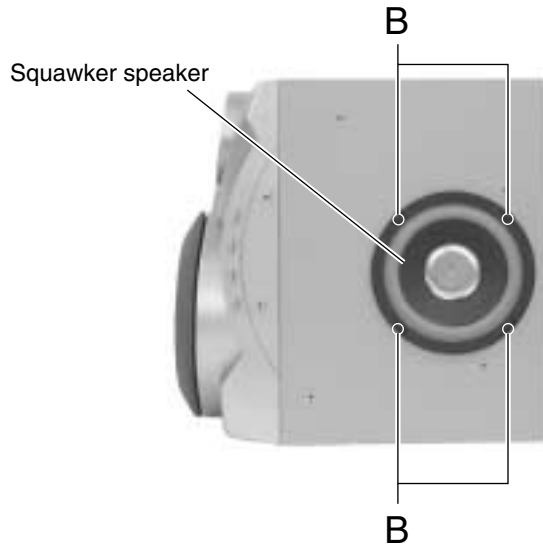

Fig.2
■ **Removing the squawker speaker (See Fig.2)**